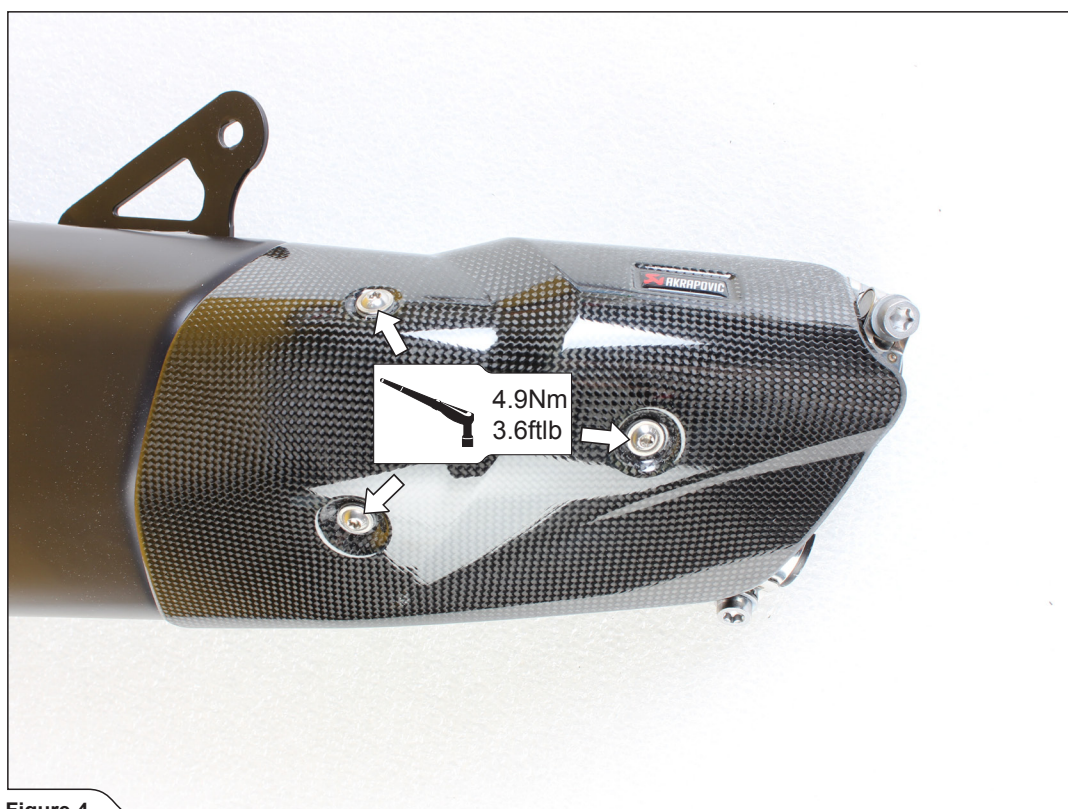

Figure 4
3. Install the heat shield onto the muffler, align the heat shield and tighten the bolts to the specified torque (Figure 4).